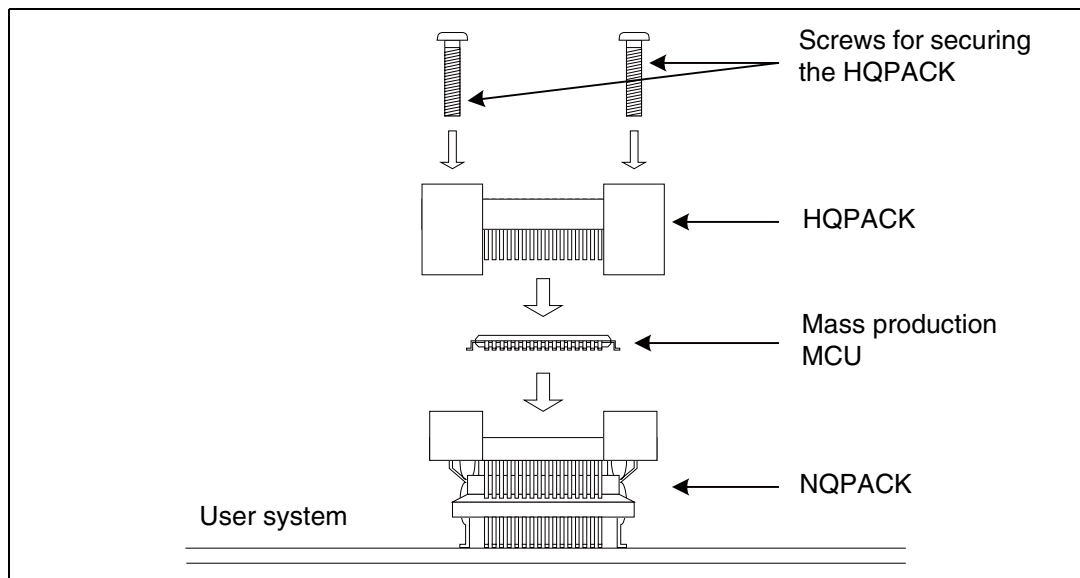

Figure 5 Mounting a mass production MCU
2. Confirm that the mass production MCU is correctly mounted on the NQPACK and then align the index mark on the HQPACK with the index mark on the NQPACK (the corner with an angle cut out of it) and insert the HQPACK into the NQPACK (see Figure 5).